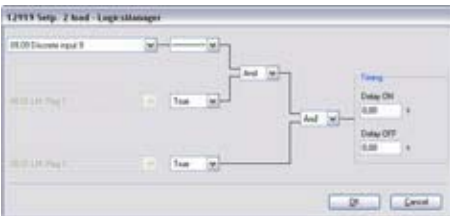

Fig. 161: LogicManager function "Setp. 2 load"
3. Configure the LogicManager function "Setp. 2 load" as shown in (Fig. 161) to enable load setpoint 2 if discrete input [DI 09] is energized.